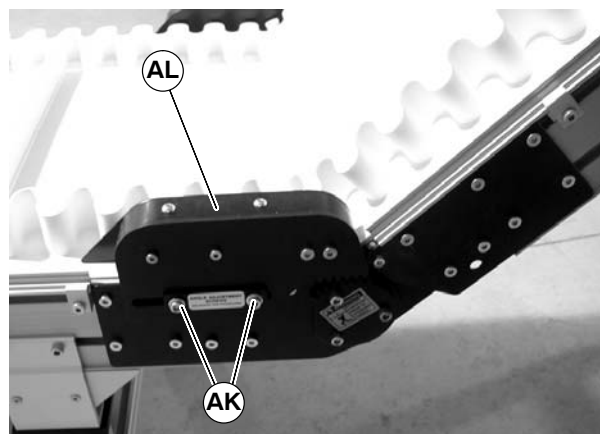

Figure 17
3. If equipped with a lower knuckle, remove screws (AK of Figure 17) and remove lower knuckle return roller assembly (AL) on both sides of conveyor, note the position of the meshing teeth.